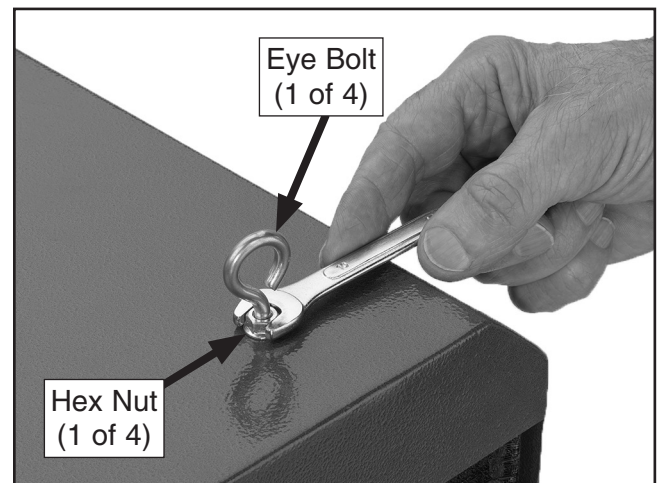

Figure 14. Installing/adjusting eye bolt.
2. Fully thread ceiling hooks into joists and install (4) lengths of chain, cable, or steel strapping from ceiling.
3. Thread (1) flange nut onto eye bolt, as shown in **Figure 14**.
4. Thread eye bolt into top of machine, and tighten flange nut against top to secure (see **Figure 14**).